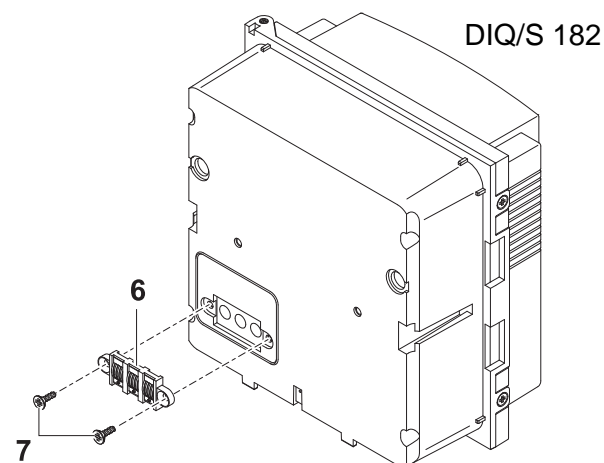

Fig. 3-7 Mounting the contact base (variant 2)
- 5 Attach the contact base (pos. 6 in Fig. 3-7) on the Universal Transmitter with the two plastic tapping screws (pos. 7).